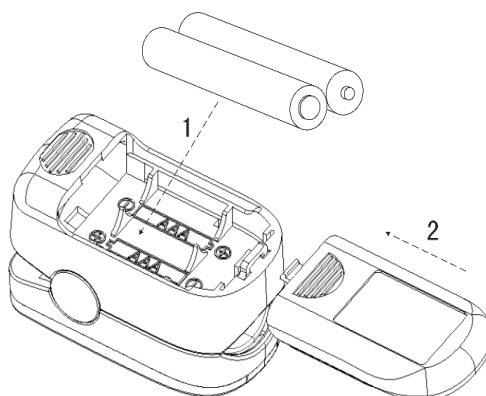

Figure 3. batteries installation
Step 1. Refer to Figure 3. and insert the two AAA size batteries properly in the right direction.